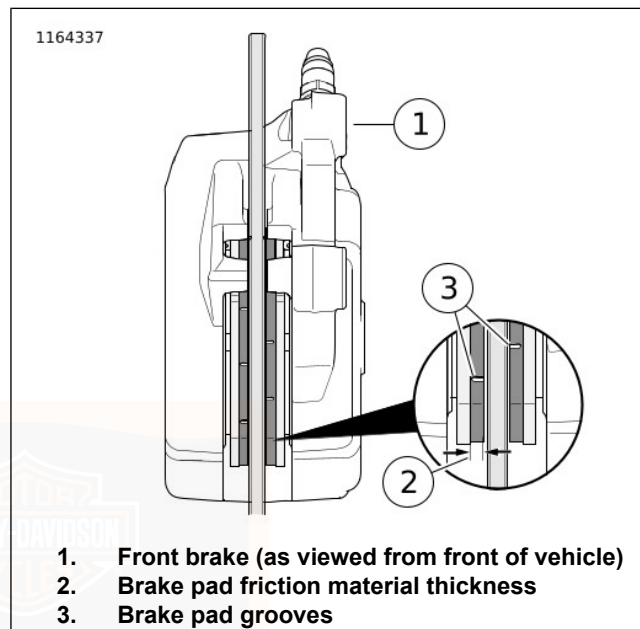
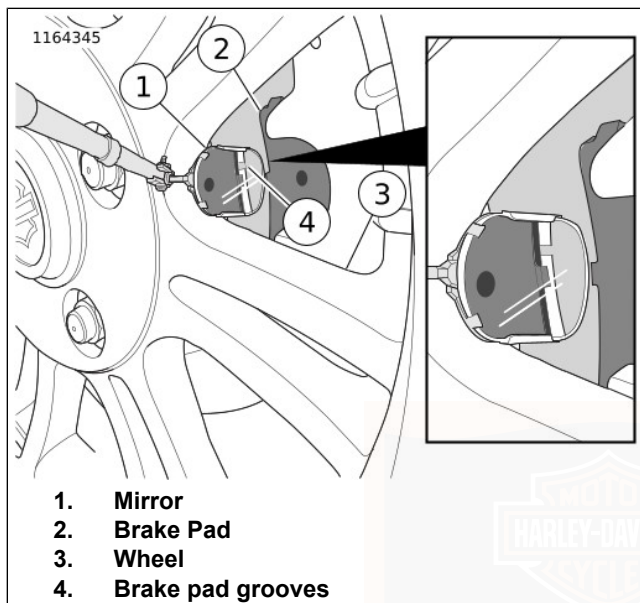

Figure 79. Front Brake Pad Friction Material
Figure 80. Rear Brake Pad Friction Material
2. See Figure 79 and Figure 80. Check brake disc/rotor as it spins. Disc/rotor should run true in brake caliper.